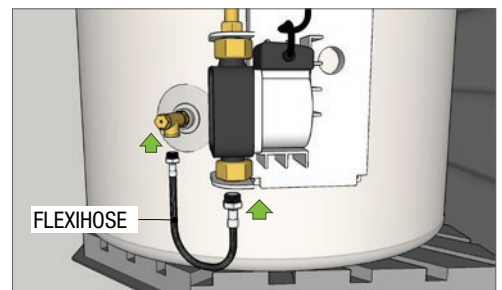

Fig 5
5. Connect the flexihose from the pump assembly to the lower connection on the brass tee (Fig 5)